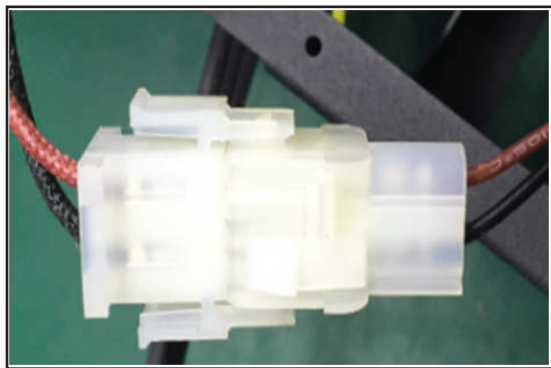

Figure 20. Unplug Motor Cable
17. Unplug the motor cable connection. See Figure 20.